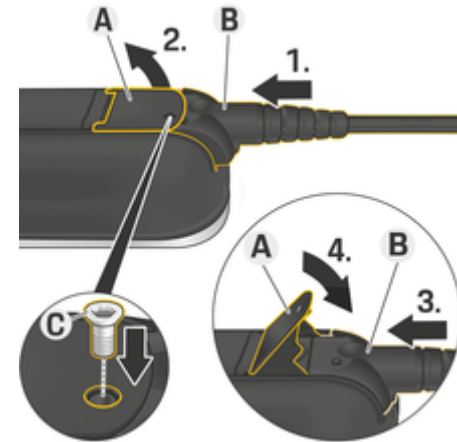

Fig. 16 Securing cables and plugs
- ✓ The lever **A** (Fig. 16) is closed.
1. Insert the plug **B** (Fig. 16) into the control unit until resistance is first felt.
2. Lift the lever **A** (Fig. 16).
3. Push in the plug **B** (Fig. 16) fully.
4. Close the lever **A** (Fig. 16).
5. Secure the plug **B** (Fig. 16) to the control unit using screw **C** (Fig. 16).